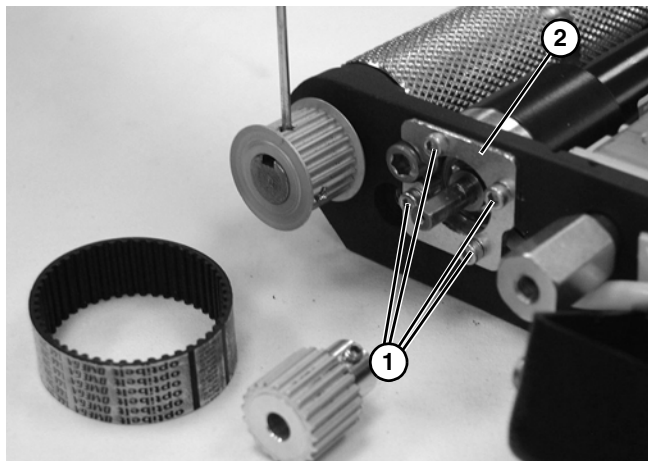

Figure 76
7. Remove four clamp plate screws (**Figure 76, item 1**) and clamp plate (**Figure 76, item 2**).